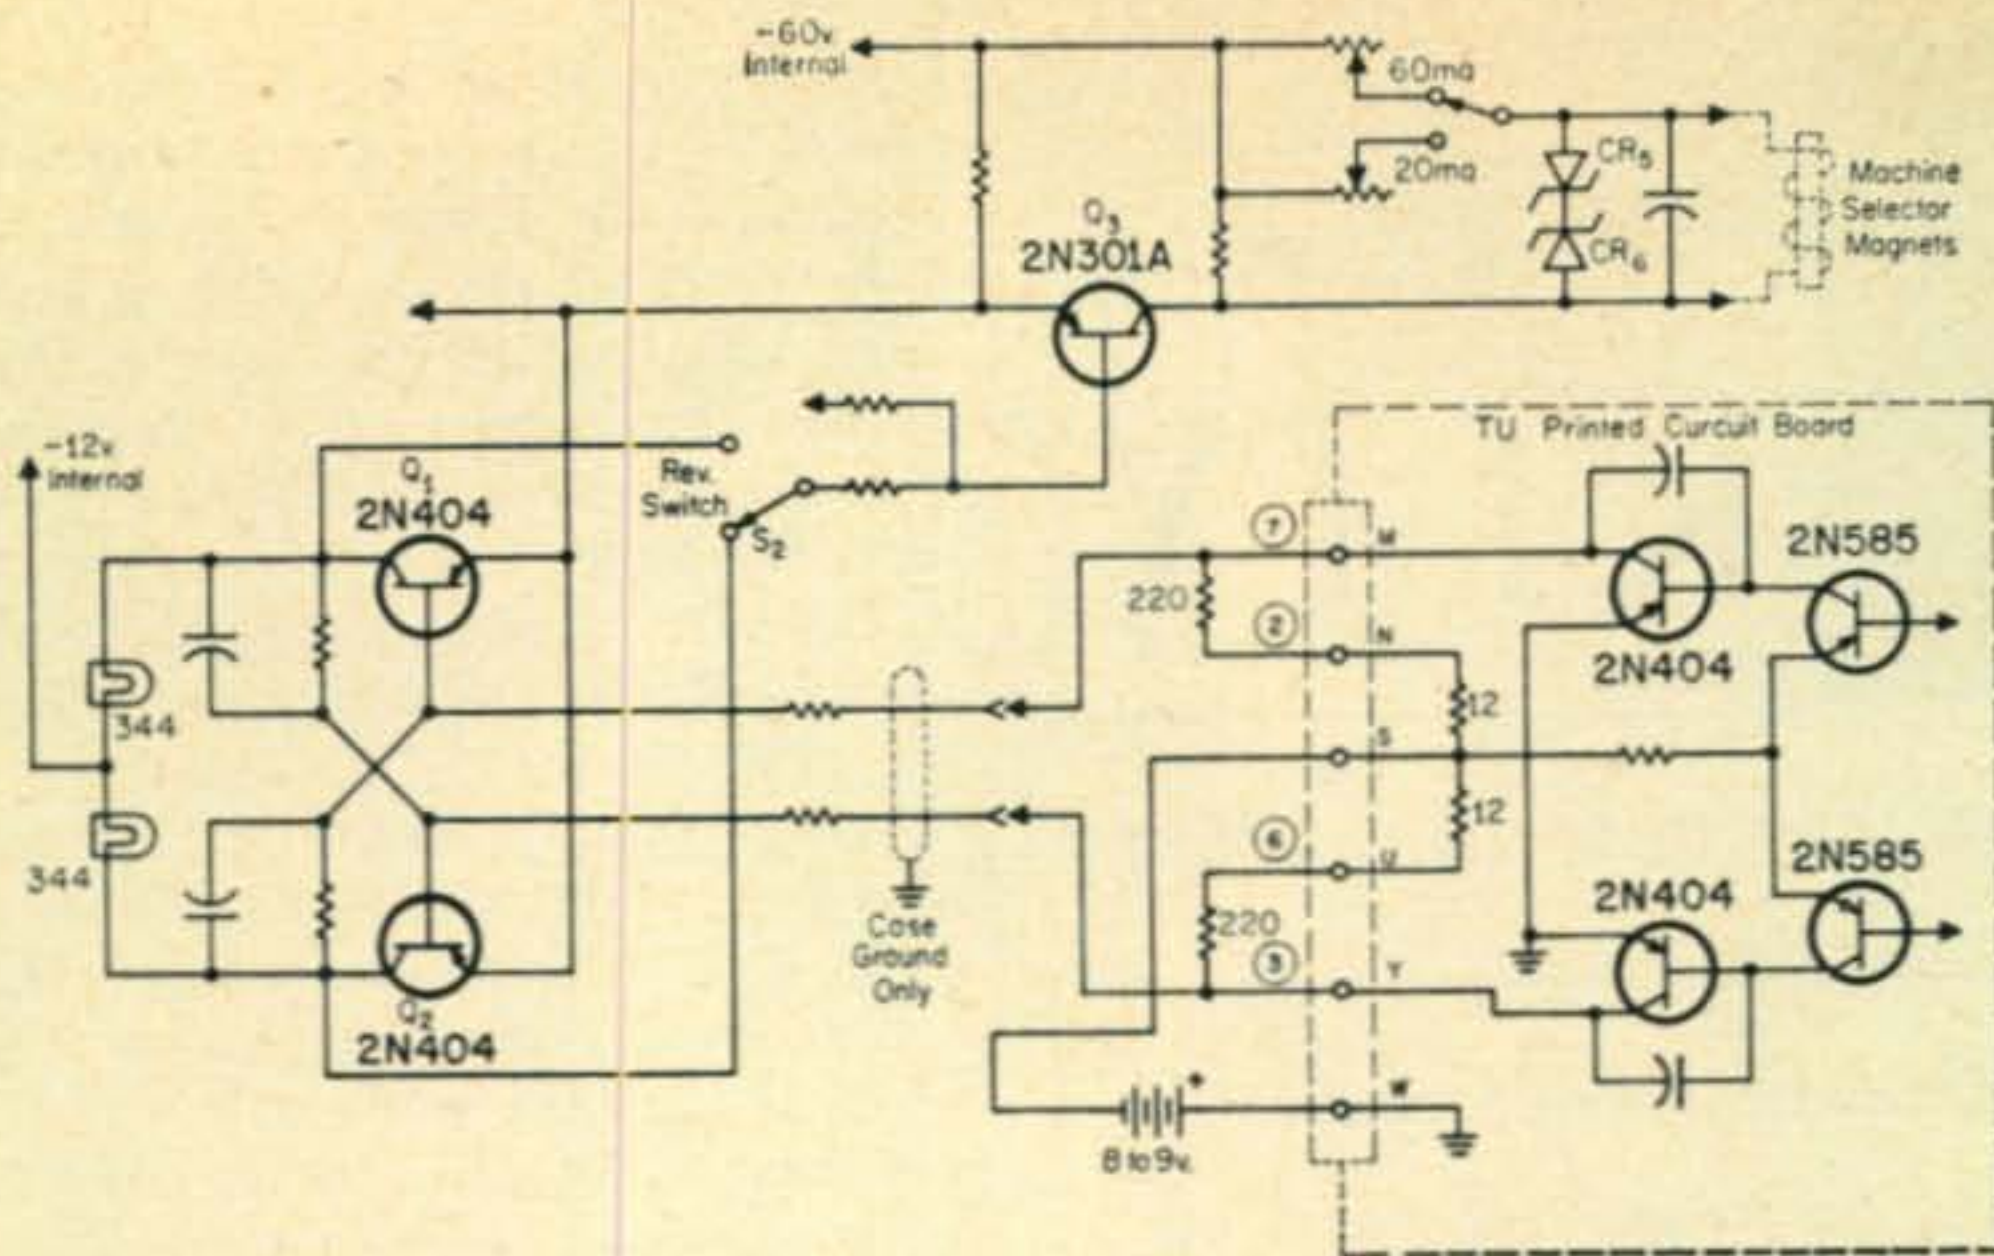

Fig. 1—Selector Magnet Driver and TU Interconnections
The most prolific contributor to our highly advanced state-of-the-art is Phil Catona, W2JAV. His first transistorized RTTY converter (TU) is described on page 107 of the *New RTTY Handbook*, and your RTTY Column has described his wide-shift polar TU in the February 1962 *CQ*. (Correction: page 87, fig. 2; the resistor in the emitter circuit of  $Q_2$  should be 8.2K instead of 2.2K.) The companion a.f.s.k. oscillator was described in the March 1962 *CQ*. (Correction: page 92, fig. 1; the capacitor between the base and collector of  $Q_1$  should be 0.01 mf instead of 0.1. Also, the capacitor between the emitter of  $Q_1$  and the bottom of  $L_1$  did not print clearly. It is 0.1 mf.) The narrow-shift polar TU of W2JAV was described in the September 1963 *CQ*; and, is built on a printed circuit board with exactly the same connections and power requirements as the wide-shift polar TU. Component parts placement for this TU was detailed in the June 1964 *CQ*. (Correction:
page 74, fig. 1; the center tap, or junction of the two coils, of  $L_3$  connects to the bottom of the 0.02 capacitor just to its right.)
An extremely useful and simple test device, also solid-state, was described in the December 1962 *CQ*. (Correction: page 69, fig. 1; there should be a ground symbol on the collector of  $Q_1$ .) This is the Square Wave Dot Generator, designed by W2JAV to key his a.f.s.k. oscillator with a signal easily synchronized on a 'scope for telegraph bias checks.
Both the wide-shift and the narrow-shift TU's of W2JAV were designed to work with the 255A polar relay for simplicity. Polar relays, it seems, are heartedly disliked by many RTTYers. Admittedly, they can be a problem to the uninitiated. So, for this reason, and in keeping with the trend towards making every piece of RTTY terminal equipment solid-state, Phil designed the transistorized Selector Magnet Driver described in the November 1962 *CQ*. (Correction: page 84, fig. 1; the zener diode  $CR_6$  is shown reversed; and, the top position of the LOOP SWITCH  $S_3$  should be marked 60 ma, not 20 ma.)
The actual connection between the Selector Magnet Driver and the associated TU was not too clear to some of our readers, so as requested we have drawn up a schematic diagram which traces the connections between these two units and to the Teletype machine selector magnets. Fig. 1 is therefore a simplified diagram showing only the vital stages of the units involved. Referring to the original description of the Selector Magnet Driver, an "internal" power supply provides the operating voltages, 12 volts for the flip-flop  $Q_1$  and  $Q_2$ , and almost 60 volts for the "keyer" transistor  $Q_3$ . These voltages are not involved with the TU connected.
The TU schematic is partially shown in the lower right of fig. 1. (The 8 to 9 volt "battery" shown could be the separate power supply described in the April 1962 *CQ*.) Note that the battery is not involved directly with the Selector Magnet Driver. The 220-ohm resistors replace the coils of the polar relay which initially connected to terminals  $M$ ,  $N$  and  $U$ ,  $Y$  on the TU. (The numbers in circles indicate the original polar relay socket connections.) If no meter is used the two 220-ohm resistors can be connected together, as shown in fig. 1 on page 84 of November 1962 *CQ*, and then connected, with the battery negative, to terminal  $S$  on the TU. There is no direct connection what-so-ever between either the positive or the negative terminals of the TU "battery" and the internal supply of the Selector Magnet Driver.